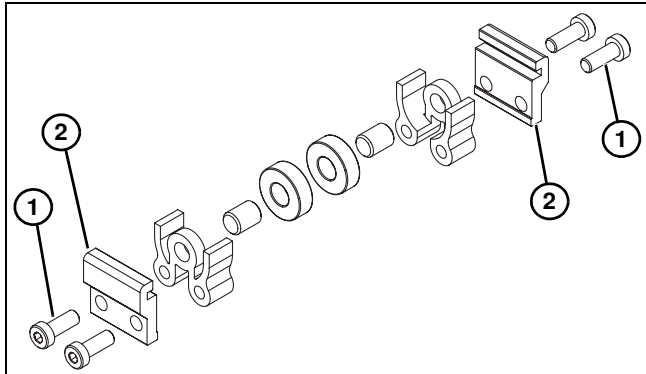
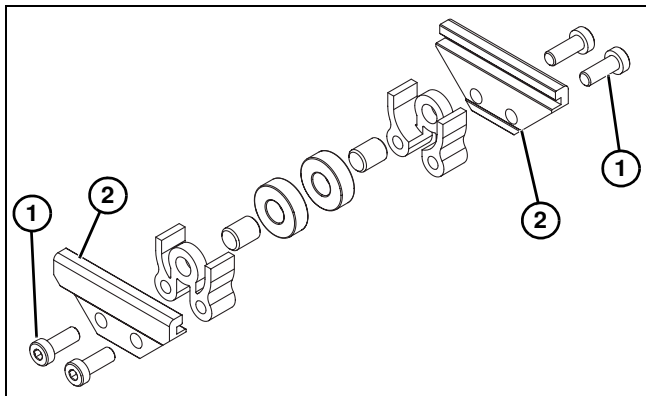

Figure 12
Figure 13
1. Locate return rollers. Exploded views shown in Figure 12 & Figure 13.
2. Remove screws (**Figure 12, item 1**) & (**Figure 13, item 1**) and clips (**Figure 12, item 2**) & (**Figure 13, item 2**) from roller assembly.